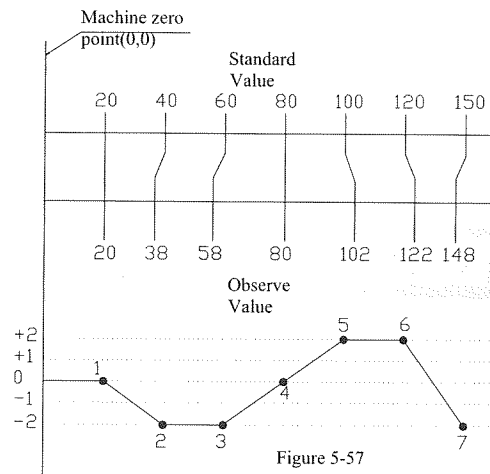

Figure 5-57
- ◆ The node value is the displayed value of the standard scale and the direction of the standard scale must be the same as the scale to be measured. The compensation point value must be input one-by-one from one end to the other end of the comparator, and the direction is the same as the counter direction of the axes. All the compensated points and their respectively relevant standard and observed values are illustrated as in figure 5-57.